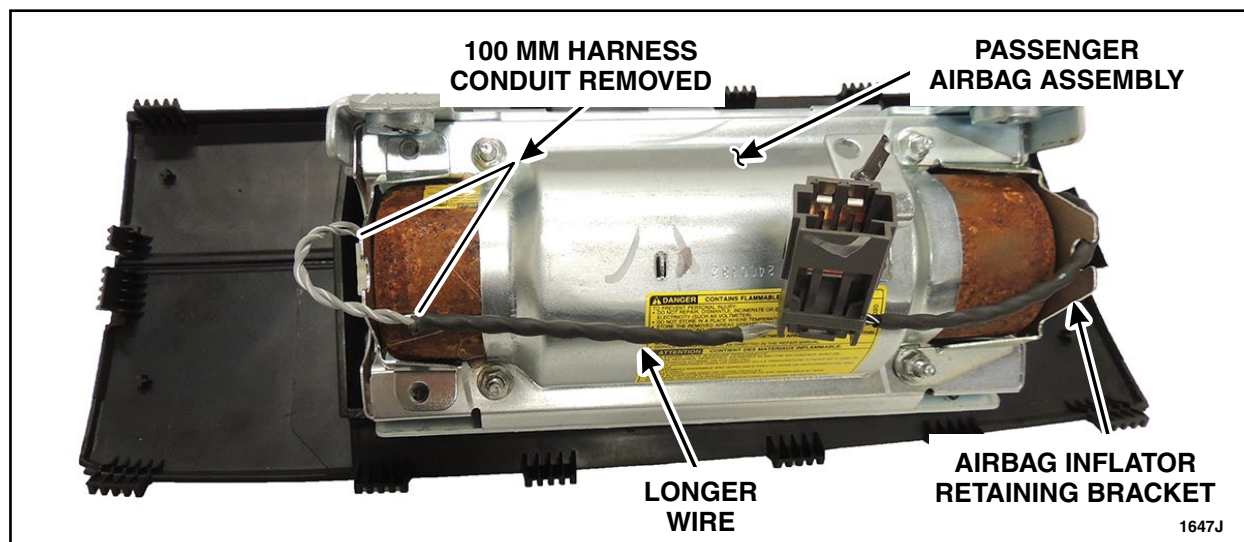

FIGURE 2
NOTE: Carry out this step on the longer wire on the end opposite of the airbag inflator retaining bracket. See Figure 2.
4. Remove approximately 100 mm (3.93 in) of the conduit from the passenger airbag assembly wire harness. See Figure 2.